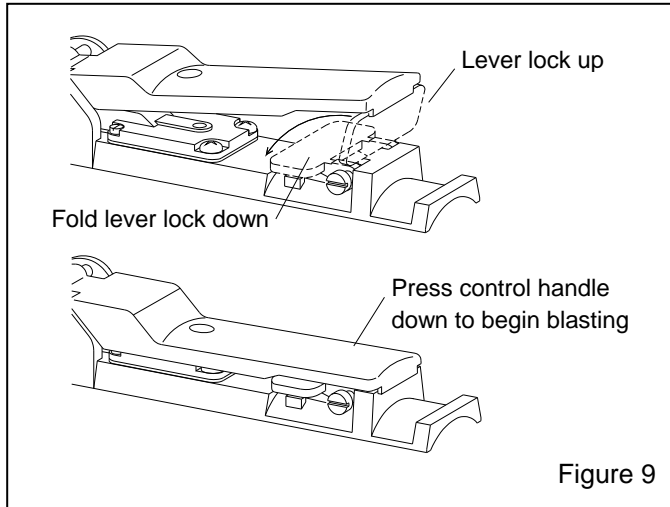

Figure 9
**3.4.4** Fold down the safety lever lock and press the remote control handle as shown in Figure 9. Within a few seconds, the pop-up valve will automatically close, and the blast machine will pressurize to start blasting.